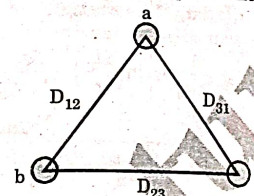

Fig. 4.14.1. Three-phase single-circuit untransposed line.
1. A three-phase single circuit untransposed line is shown in Fig. 4.14.1.